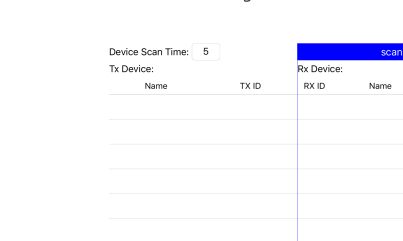

Figure 3
4.2.3 Firstly, connect the router to the IGMP switch. Then, connect mobile phone and the router with each other, open the downloaded APP "Matrix Control Lite" will enter to the interface as figure 3, TX ID, RX ID, TX connected number can be re-set by this APP, also can edit device name for marking.